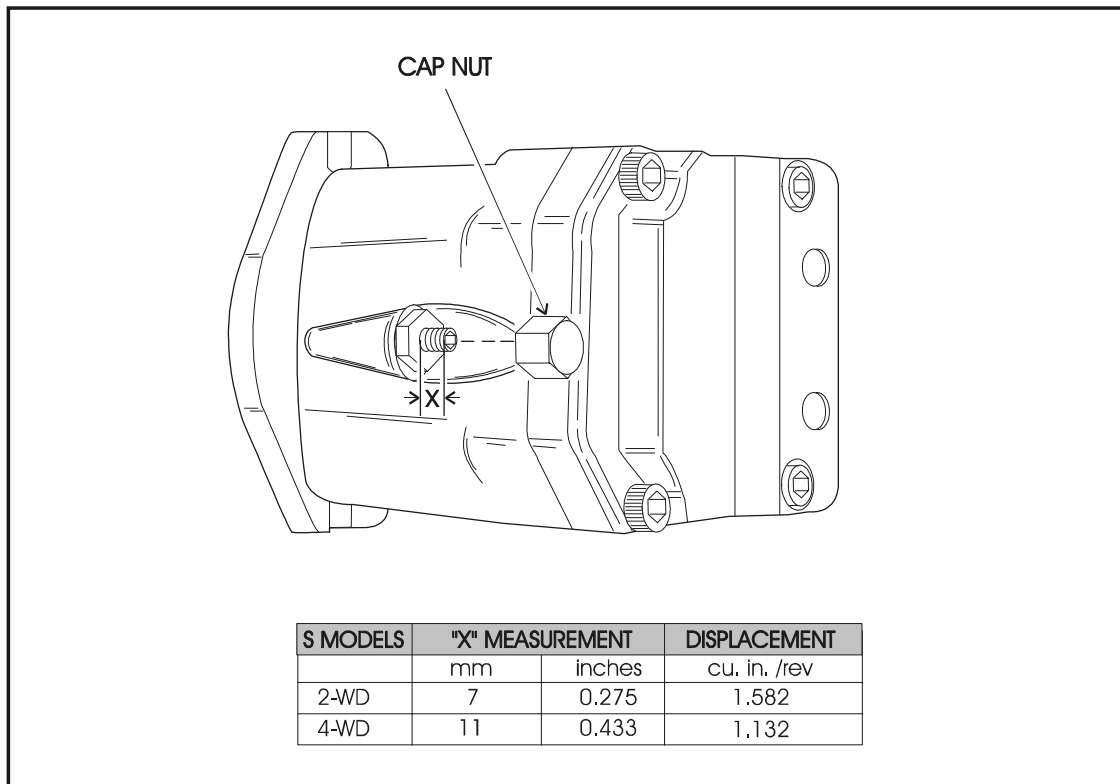

Figure 3-5. Drive Motor Adjustment
3. Measure from top of jam nut to the end of adjustment screw. (See Figure 3-5., Drive Motor Adjustment.)